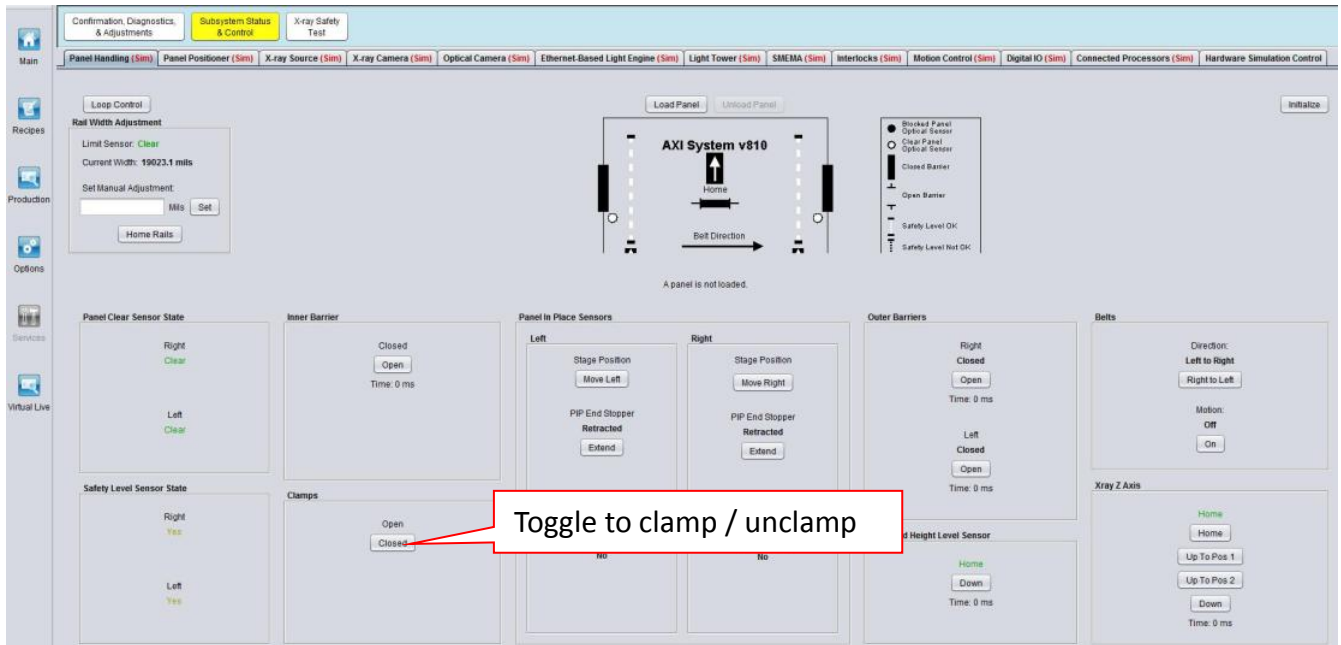

Figure 11 Clamping & Unclamping
22. Manually Clamp & Unclamp as shown in Figure 11